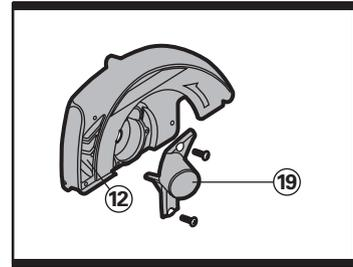

Fig 9
To remove sawdust, connect a suitable external dust extraction device (e.g. vacuum cleaner) to the dust extraction outlet (12) using the adapter (19) and a flexible hose connection. Ensure the hose connection is secure (See Fig 9).